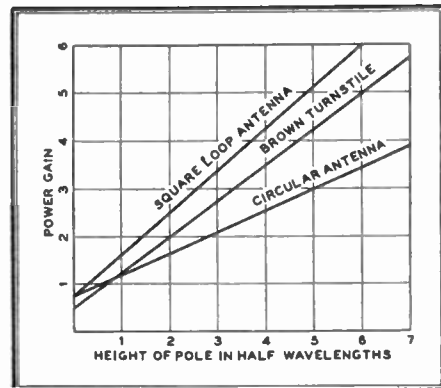

FIG. 8. POWER GAIN PLOTTED AGAINST REQUIRED HEIGHT OF SUPPORTING POLE
7. Power gains of the turnstile as compared to other types are shown in Fig. 8.
The radiation characteristics of the dipole as shown in Fig. 9A are the same as that of one pair of radiators on the turnstile. The pattern in the horizontal plane is a figure 8 which, of course, is undesirable for broadcast purposes. To overcome this and attain an approach to uniformity of transmission in all directions, the dipole is bent around into a circle as shown in Fig. 9B. This, however, will not of itself give a circular pattern as the current distribution is not uniform around the radiator. To improve on this situation, a pair of large metal plates is fastened at the folded points as shown in Fig. 9C. These plates have the effect of adding end capacity to the radiators and change the current distribution something as shown in Fig. 9C. The current is now approximately uniform around the loop and the signal radiated approaches a circular pattern to the same degree.